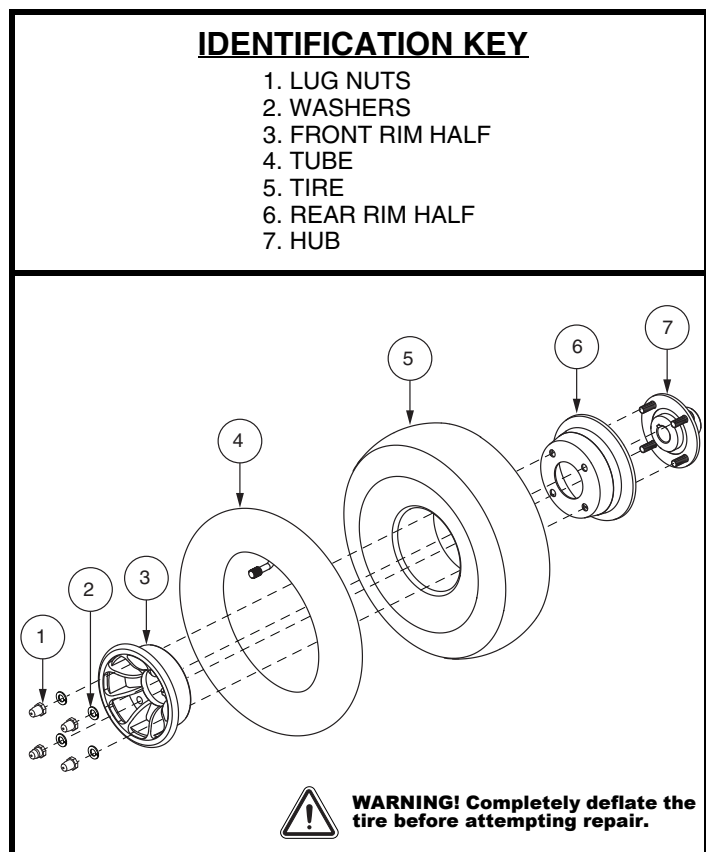

Figure 24. Pneumatic Drive Wheel Disassembly/Assembly
6. Remove the lug nuts and washers and separate the rim halves. **See figure 24.**
7. Remove the old tube from the pneumatic tire and replace it with a new tube. **See figure 24.**